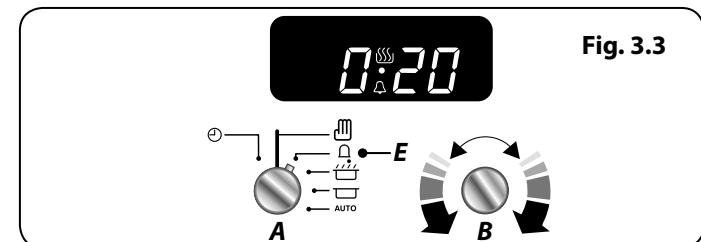

Fig. 3.3
- Turn the **Adjusting (B)** knob to set the amount of time required. Minimum time 1 minute (**Fig. 3.3**).
- Turn the **Timer (A)** knob back to the **Manual (D)** setting to see the current time and the 'Bell' symbol on the display.